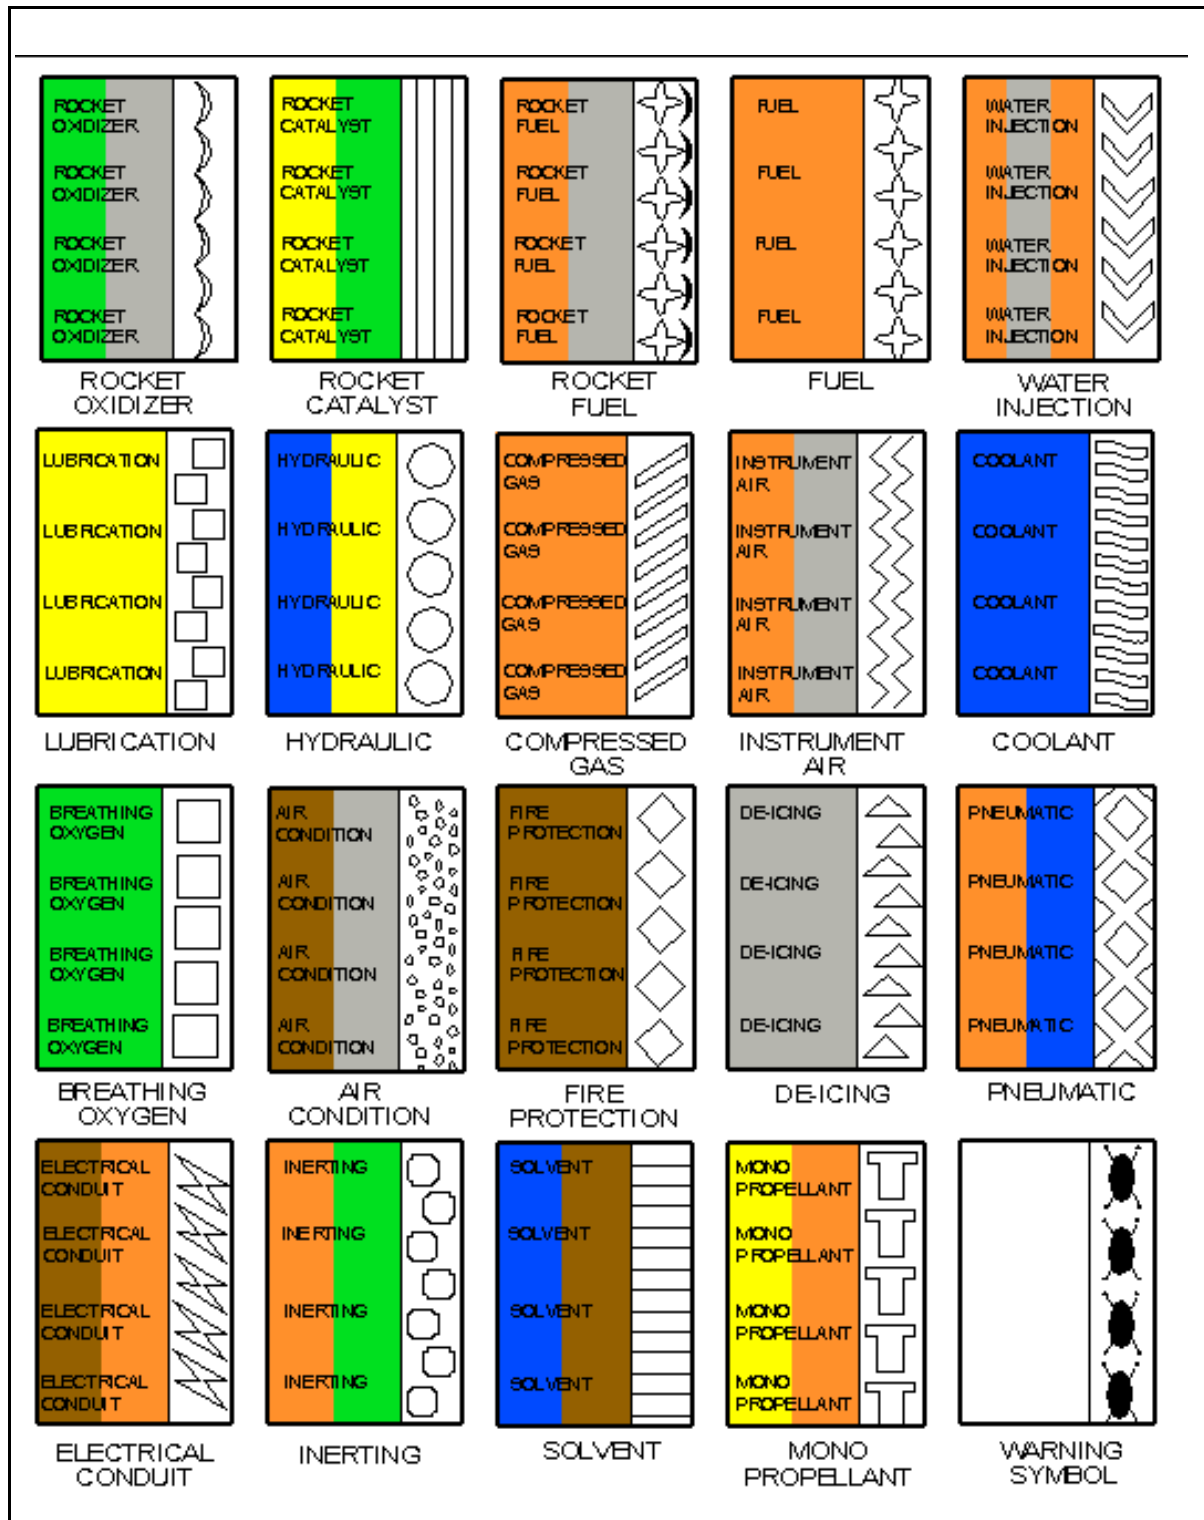

Figure 7-2. Color symbols for extinguishers
**7-35.** To prepare for aircraft accidents, firefighters must recognize all the systems and potential hazards in an aircraft. Figure 7-2, page 7-10, shows the color-code designations on the pipes for some of the aircraft systems. For safety, firefighters should know the color codes before entering a damaged aircraft.